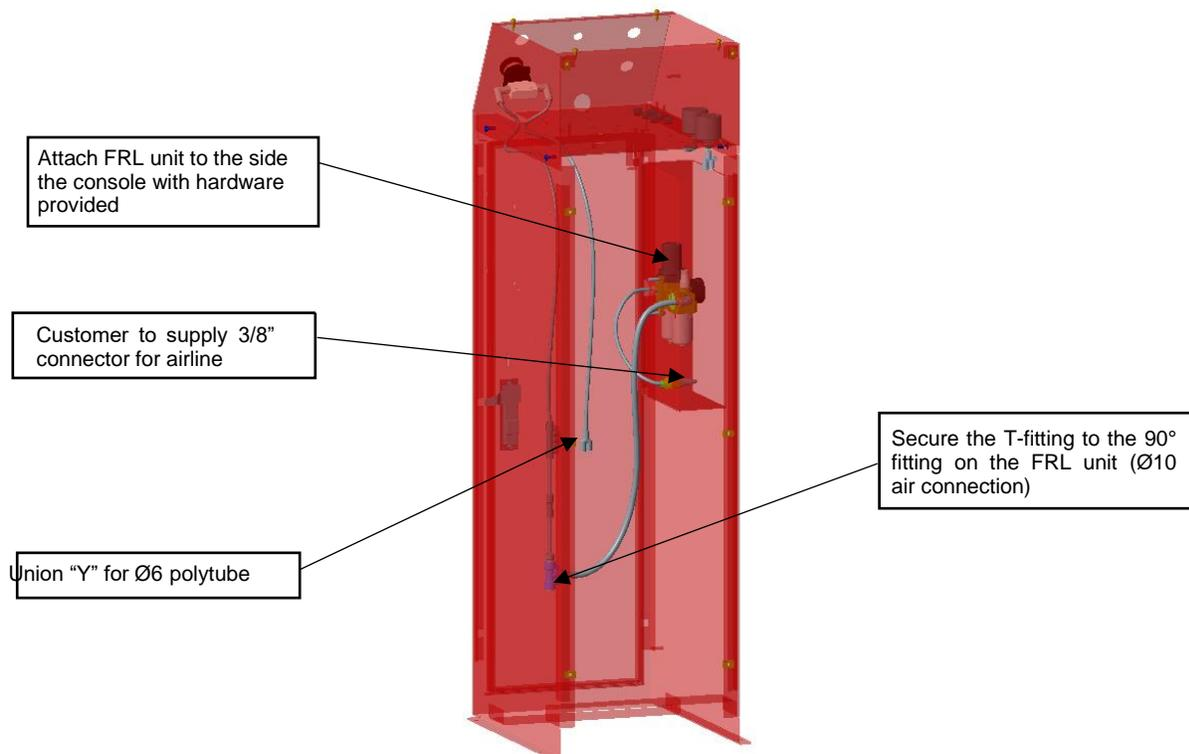
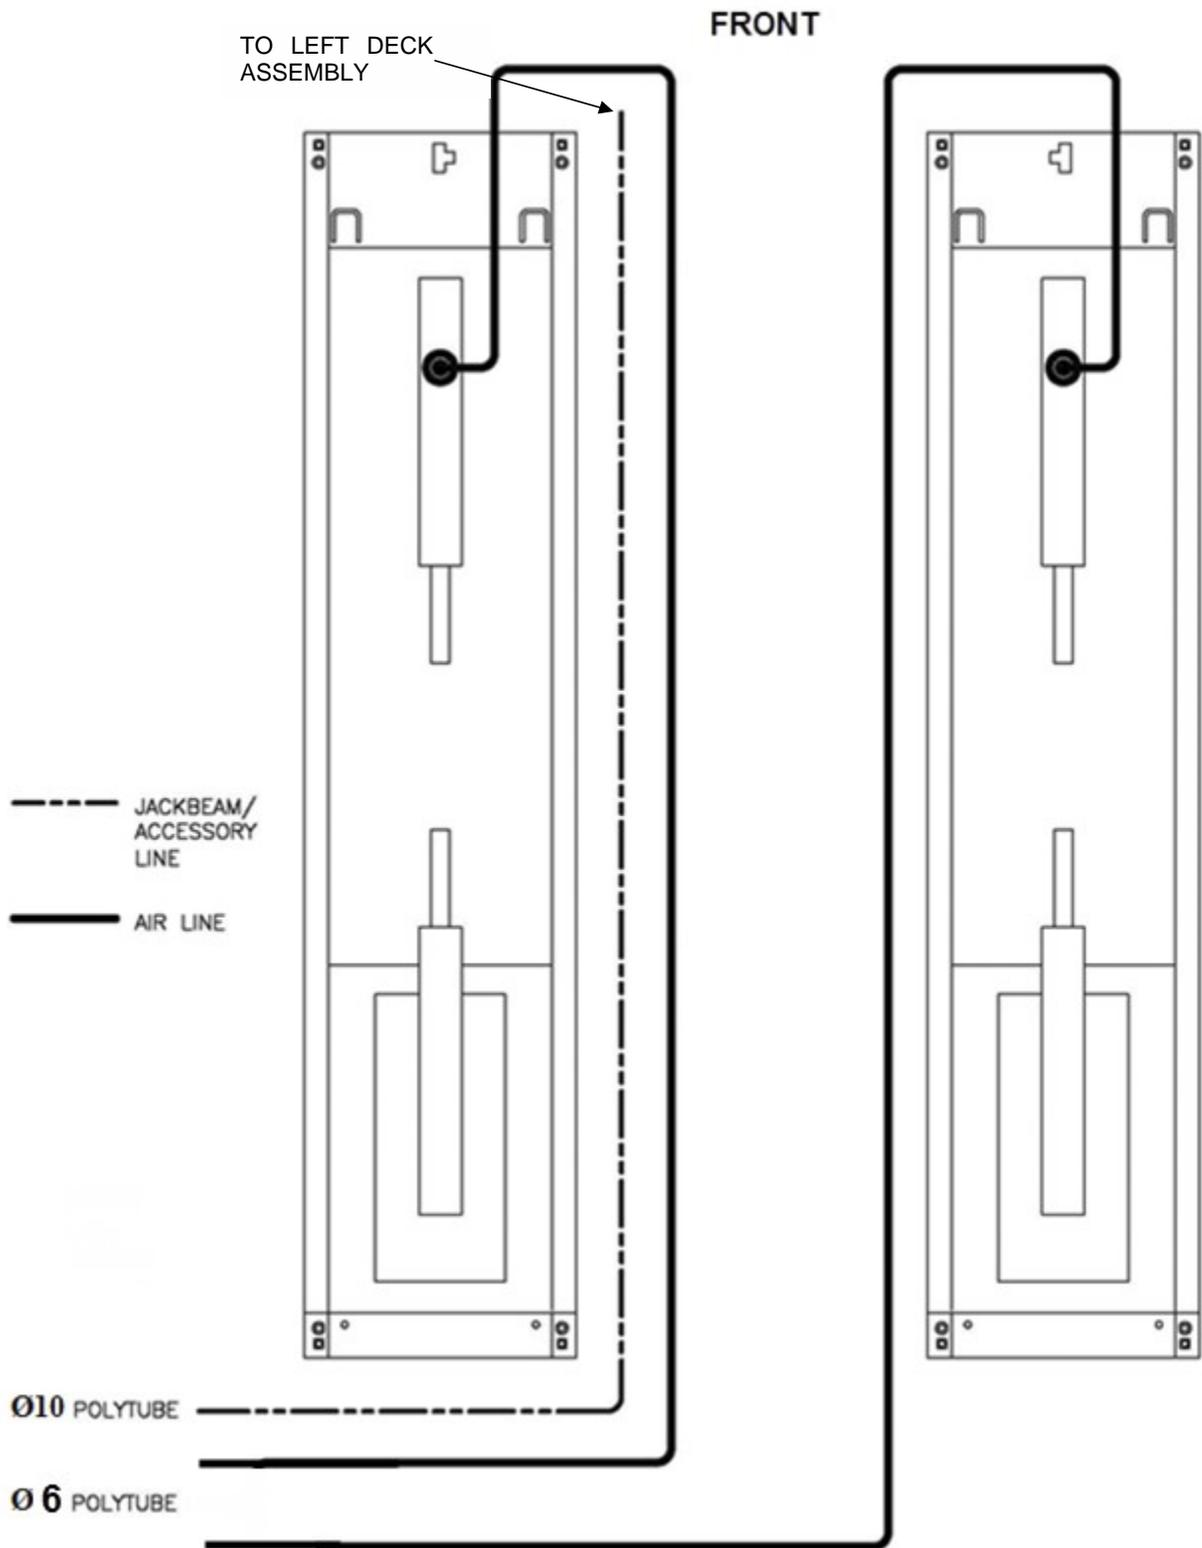

Figure 9 - Air Safety & Auxiliary Air Connections
Figure 11 - Air Safety & Auxiliary Air Connections
1. Uncoil the $\varnothing 6$ mm polytube from each base frame that is connected to the air release cylinder. Route this line to the 'Y' connector in the console. (Figure 9, Figure 11)
2. The $\varnothing 10$ mm polytube for the auxiliary air connections is coiled from left side base frame. Route this hose to the console and connect it to the T- fitting inside the console. (Figure 9, Figure 11)